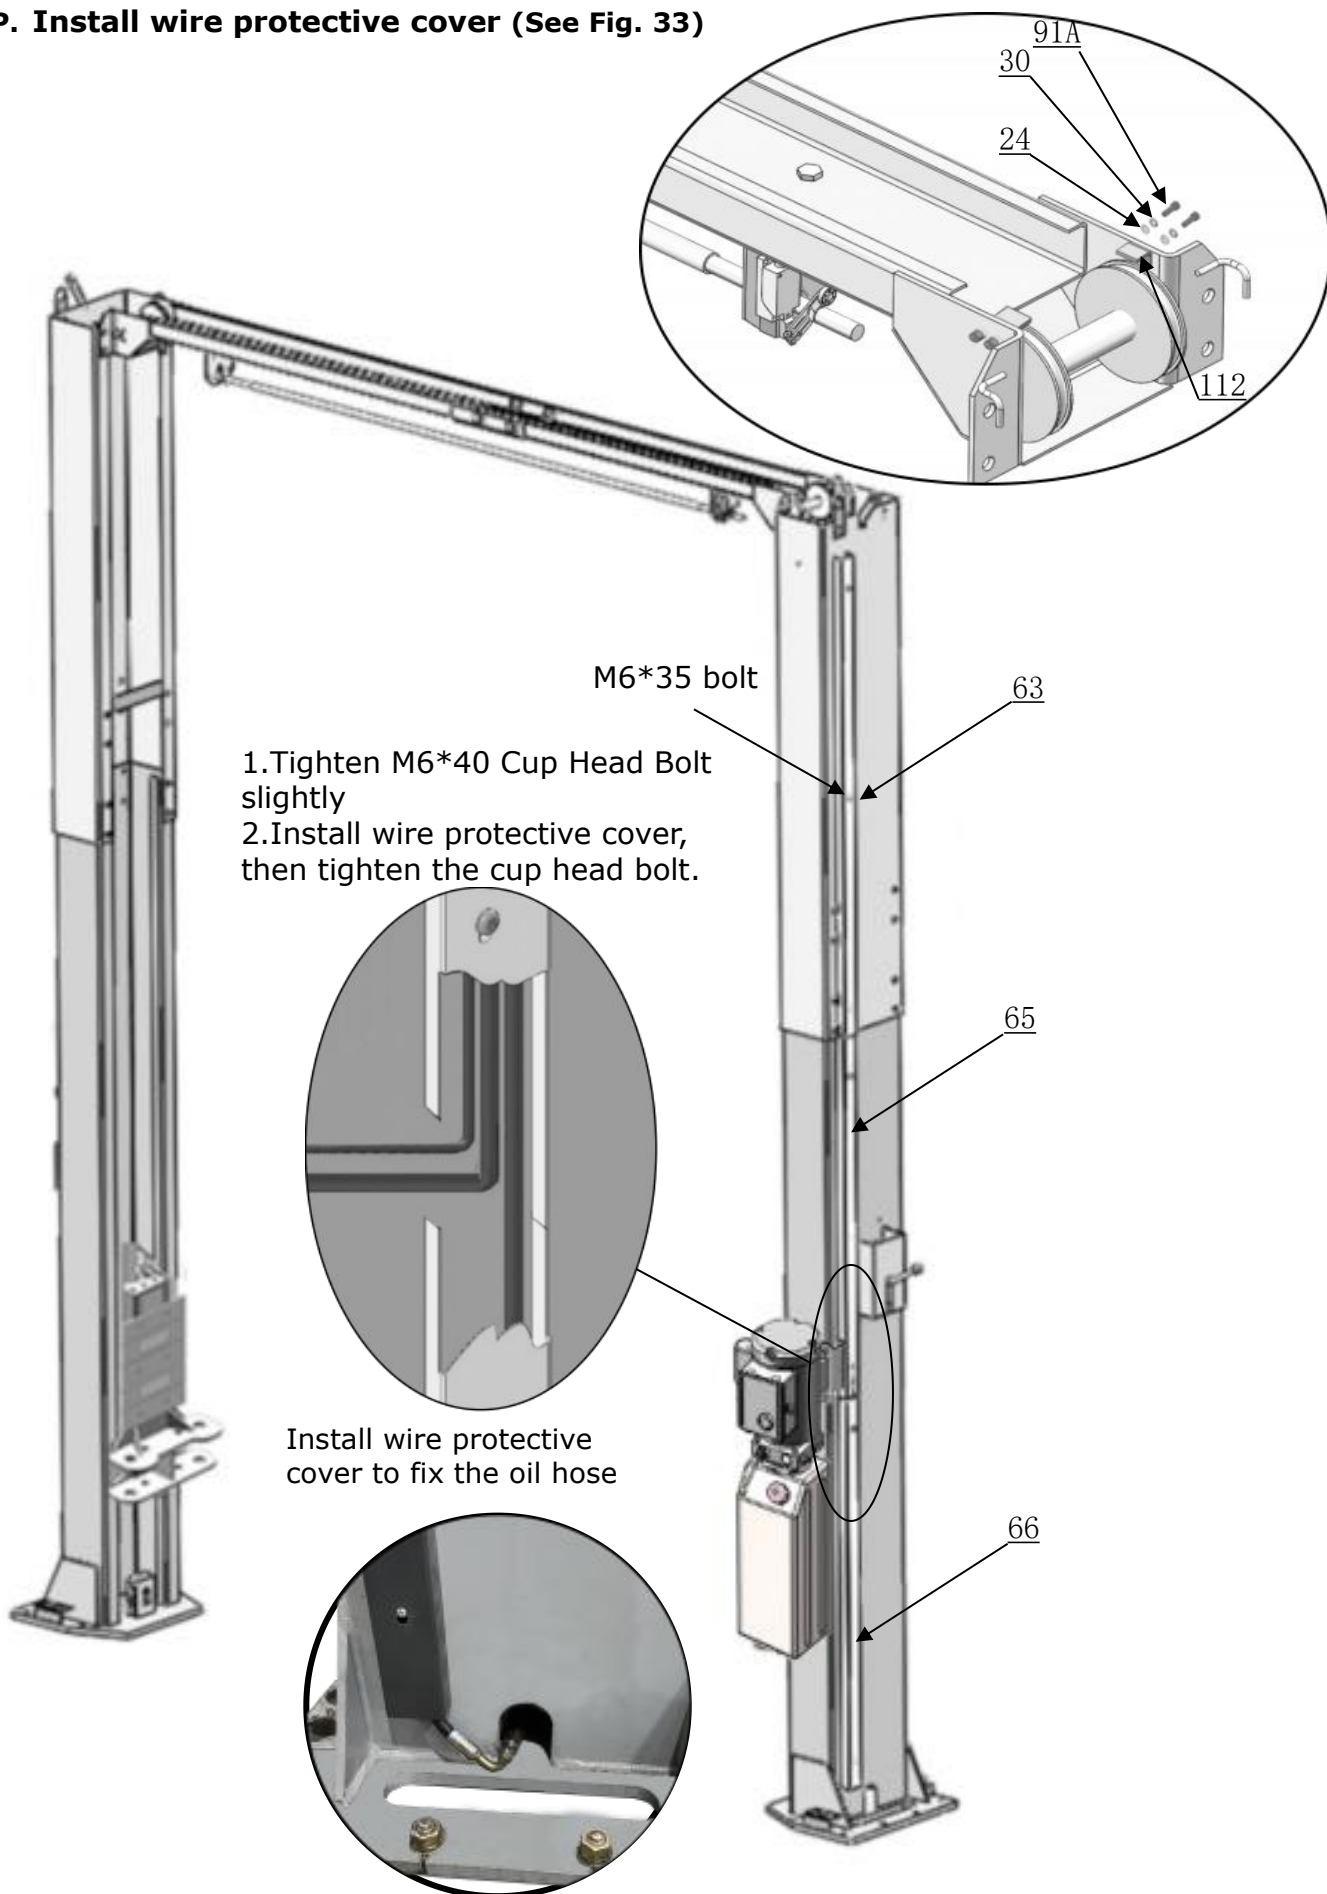

Fig. 33
P. Install wire protective cover (See Fig. 33)